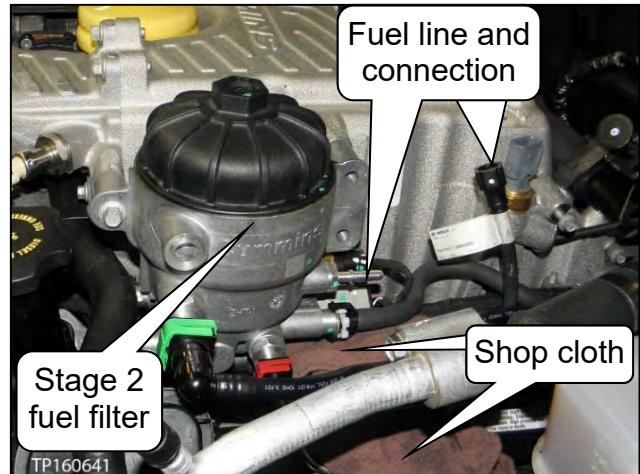
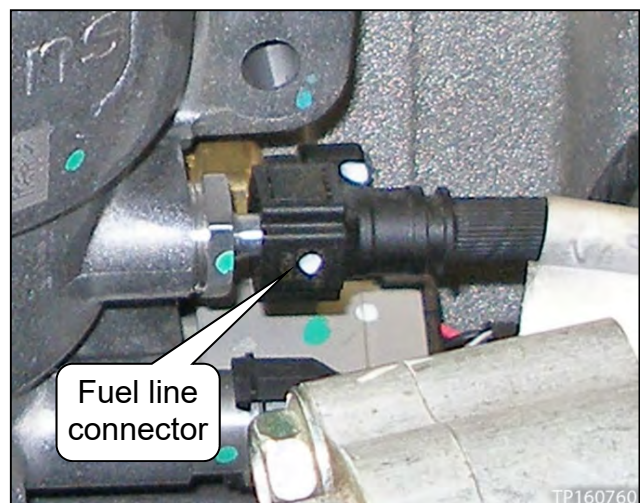

Figure 25
Figure 26
b. Place clean shop cloths under the stage 2 fuel filter assembly fuel line (see Figure 25).
c. Disconnect the fuel line shown in Figure 25 and Figure 26.
- To remove the fuel line, pinch the tabs on both sides of the fuel line connector, and then pull off (see Figure 26).